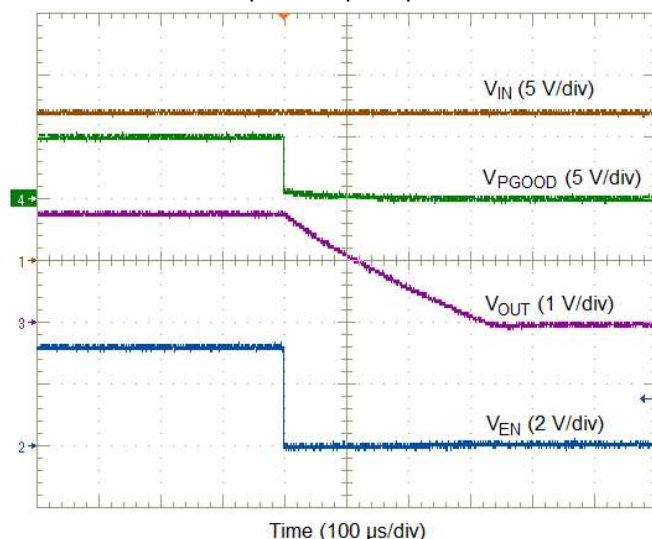
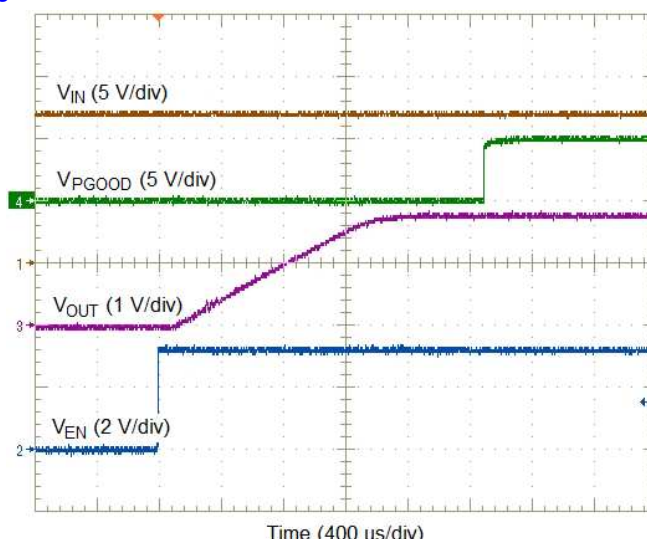

Figure 13. Enable Turnoff
Figure 14. Enable Turnon
If an application requires controlling the EN pin, either drive it directly with a logic input or use an open drain/collector device to interface with the pin. Applying a low voltage to the enable control (EN) pin disables the output of the supply, shown in Figure 13. When the EN pin voltage exceeds the threshold voltage, the supply executes a soft-start power-up sequence, as shown in Figure 14.